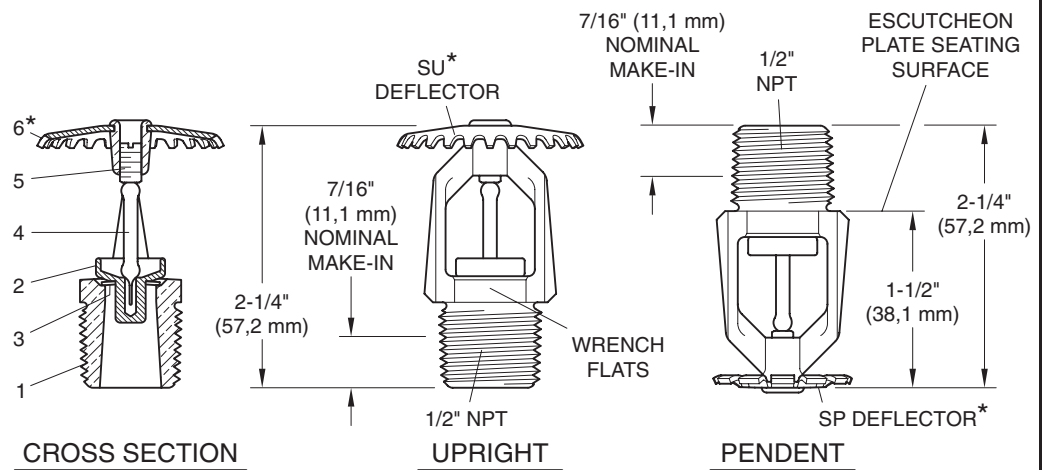

**FIGURE 1**
**Step 3.** Tighten the sprinkler into the sprinkler fitting using only the W-Type 6 Sprinkler Wrench (Ref. Figure 5). With reference to Figures 1, 2, 3, and 4 the W-Type 6 Sprinkler Wrench is to be applied to the wrench flats.